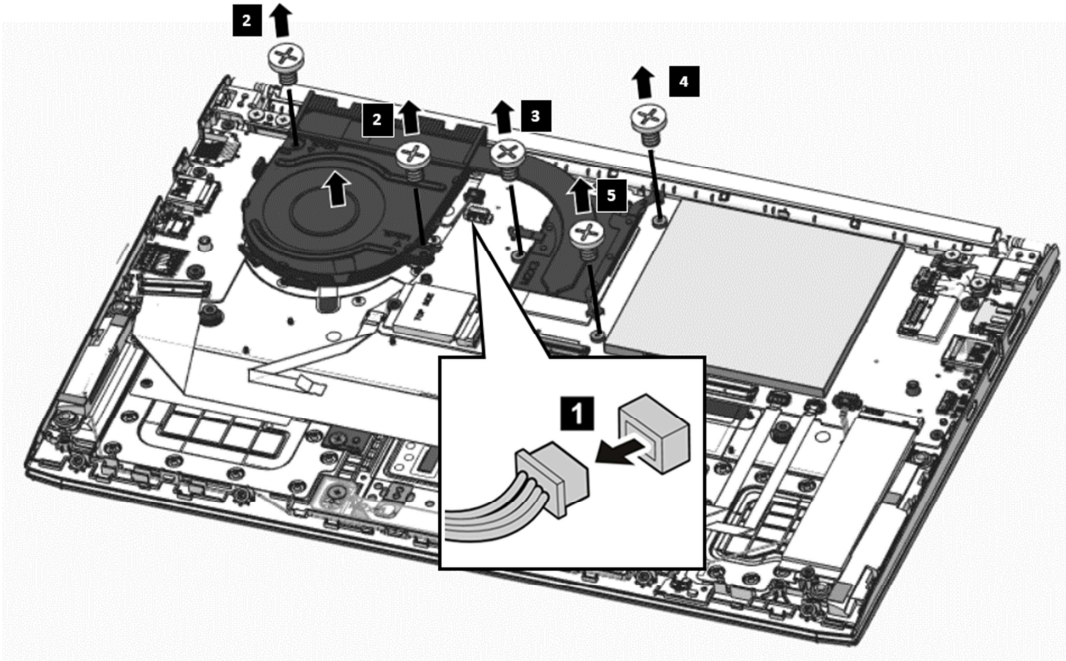
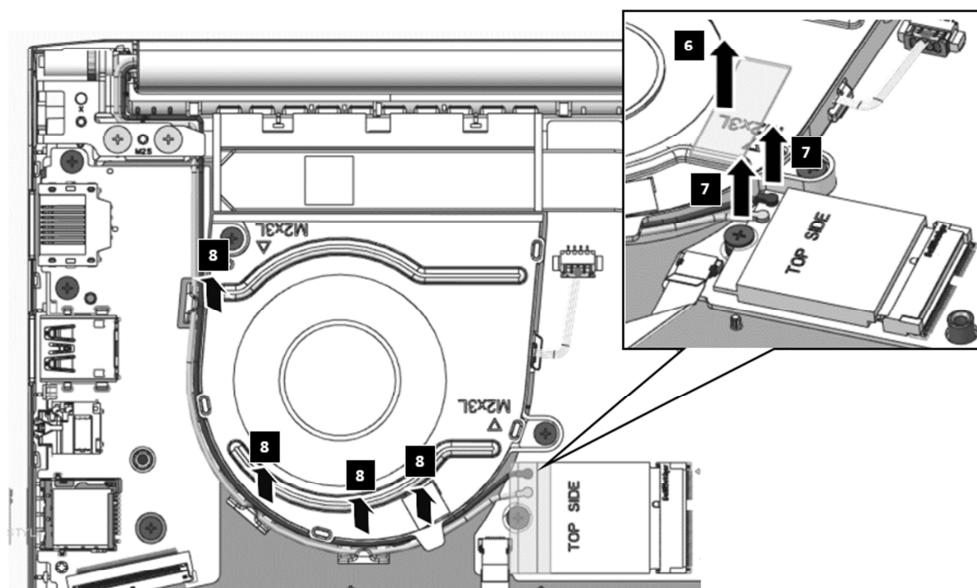

Figure 4-3 Removing the Fan and thermal module
Figure 4-4 Removing the w-lan cable
Remove the fan and thermal module according to the following procedures and Figure 4-3 & Figure 4-4
W-LAN antennas (White/Black color) from motherboard ,7 as shown in Figure 4-4.
5. Remove the three M2x3 screws according to the number sequence (5->4->3) indicated in Figure 4-3 .
2. Tighten the two M2 x 3 ,2screws to secure the fan to the logic upper assembly, as show in Figure 4-3.
5. Tighten the three M2 x 3 screws according to the number sequence (3->4->5) indicated in Figure 4-3 to secure the thermal module to the motherboard.